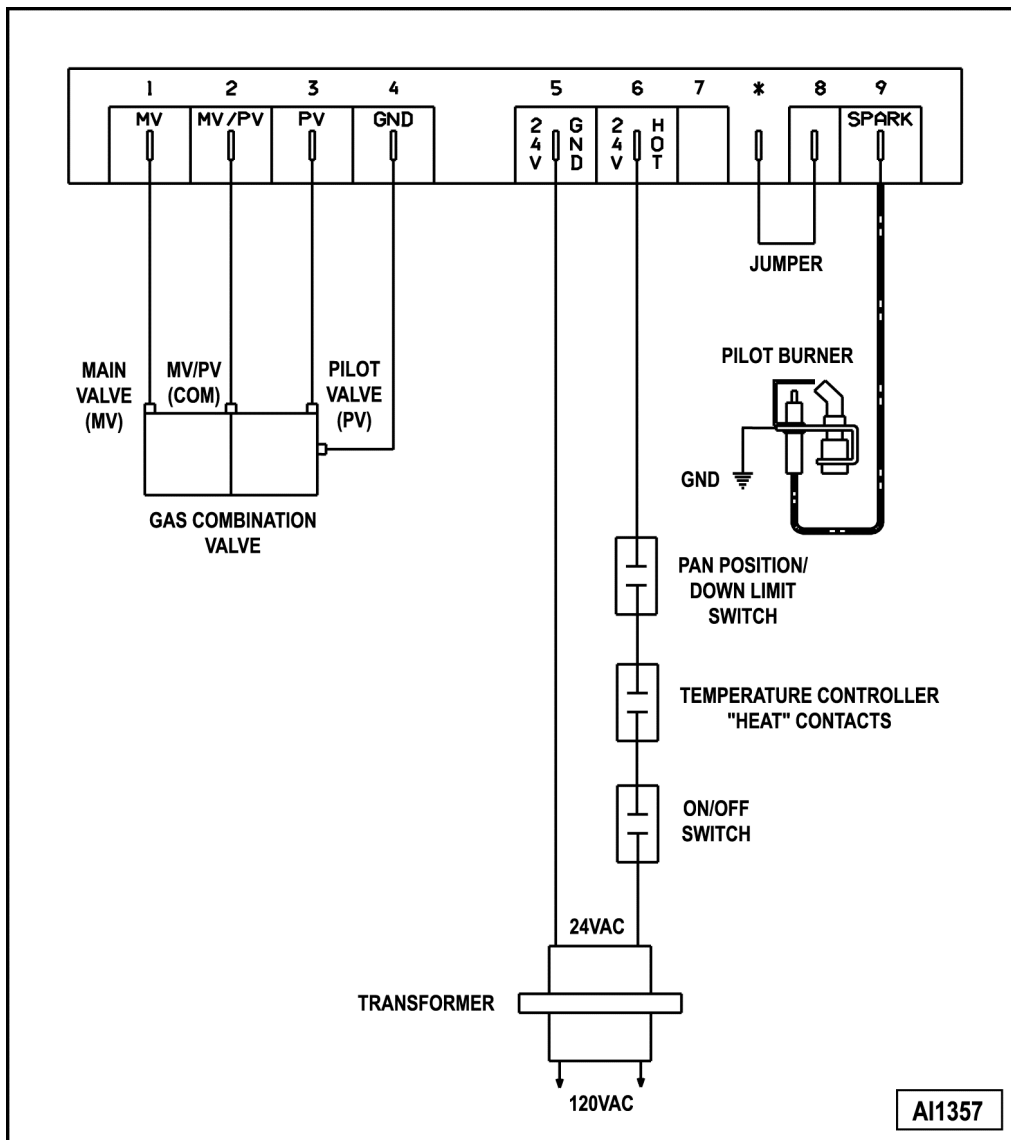

Fig. 79
**NOTE:** 1st generation shown in Fig. 79. Refer to WIRING DIAGRAMS for 2nd generation wiring connections.